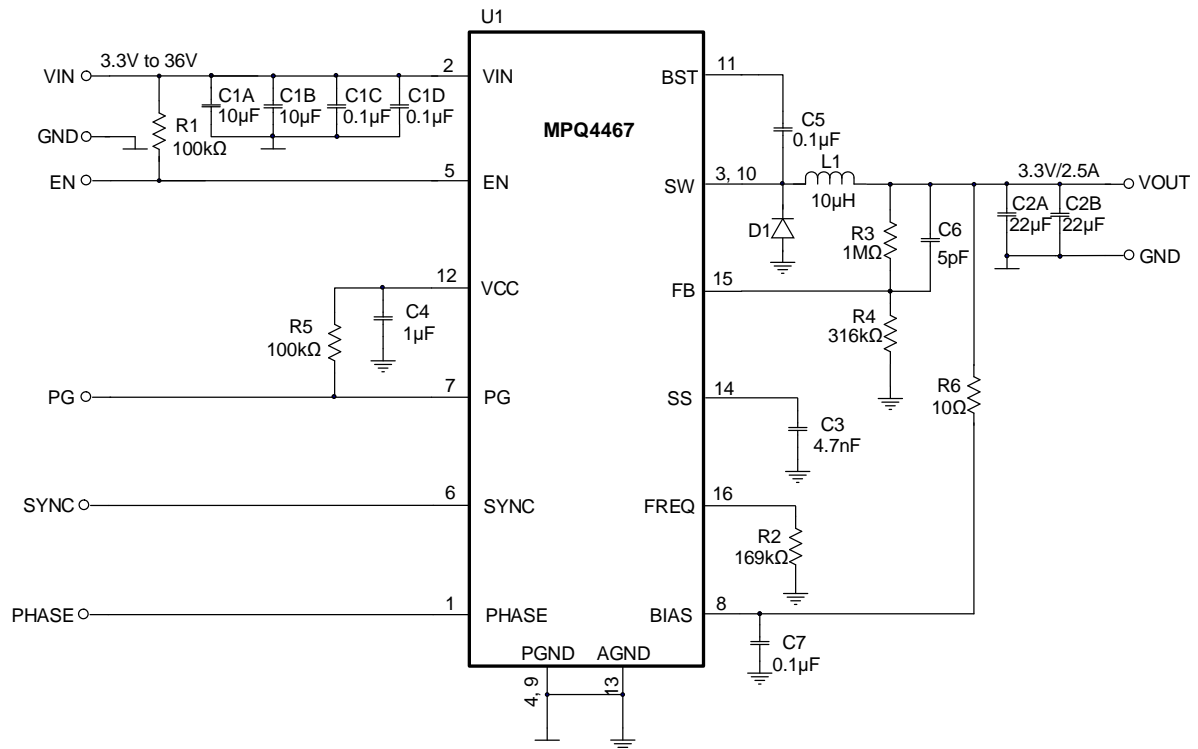

Figure 9: $V_{OUT} = 3.3V$, $f_{sw} = 500kHz$
7) The recommended PCB layout is based on Figure 9.